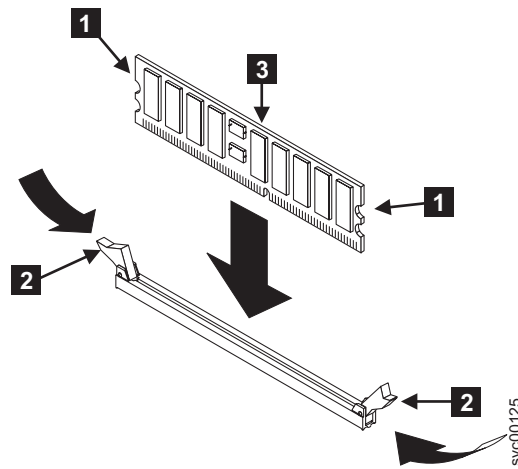

Figure 118. Replacing a memory module
1. With the clips **2** open, lower the memory module **3** into the connector, as shown in Figure 118. Close the clips by pressing them inward.